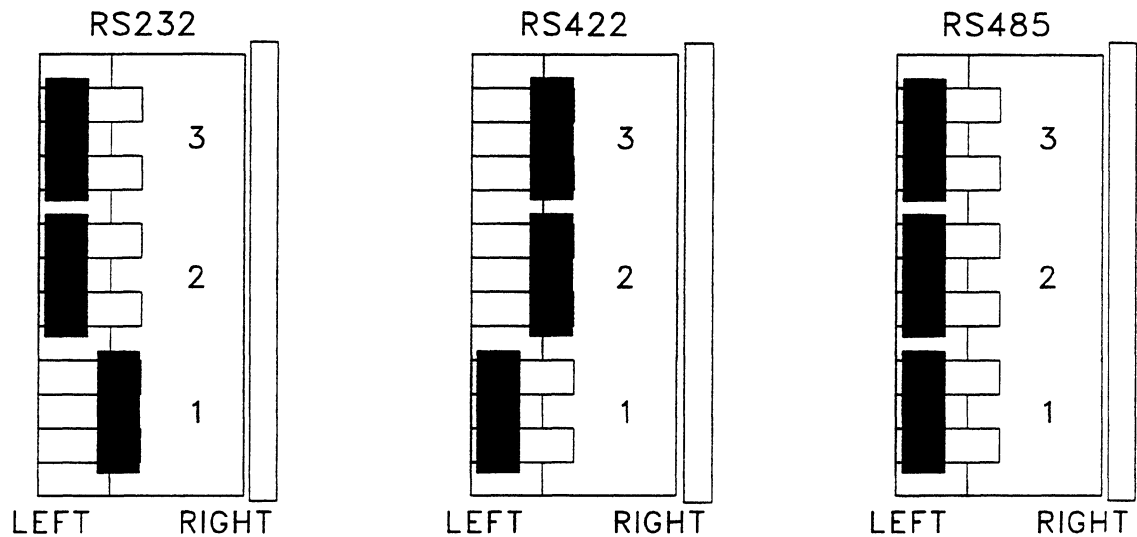

Figure 2-1 RS232 / RS422 / RS485 SWITCHES CONFIGURATION
11. Check the switches position for RS232/422/485 configuration. See figure 2-1 and table 2-1.